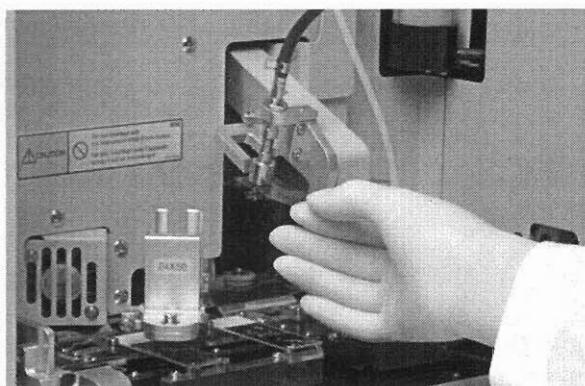

Figure 3-P
- If the instrument has stopped while retrieving a coverglass, it must be removed from the coverglass arm (Fig. 3-P). To remove the coverglass, press the [VERIFY] key from the following display while gently holding the coverglass. This prevents it from dropping from the coverglass arm.